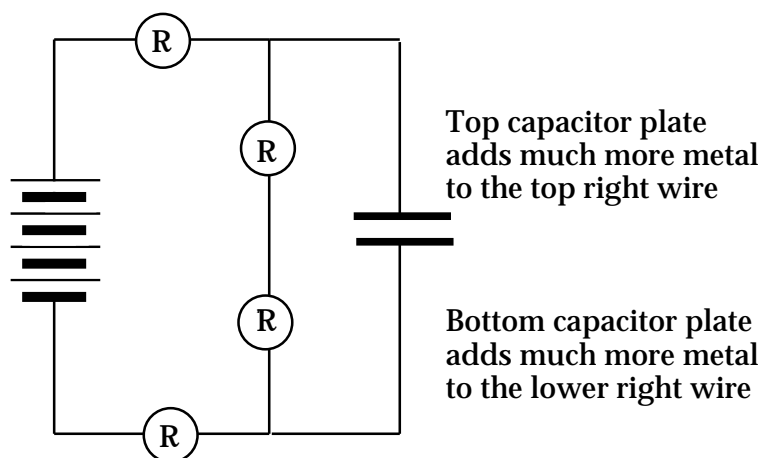
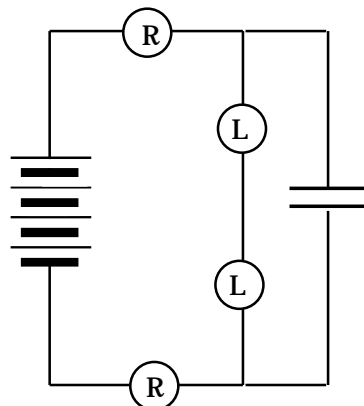

Figure 5.2
Figure 5.7
We will slow the process down by adding a lot more metal to the top right and bottom right wires – using capacitor plates, as in Figure 5.2. A lot more charge will have to be compressed and depleted in these plates, in order to cause higher and lower pressure in the top right and bottom right wires. That will require a lot more time.
1. Set up the circuit in Figure 5.2 using a blue capacitor. Make the last connection at one of the battery terminals. Describe what you observe.
2. Draw starbursts on the bulbs in Figure 5.2 that show the brightness of each bulb at the instant of connection. Draw arrowtails that show the directions and rates of flow that are causing the observed brightness. Color code the wires to provide a picture of the pressure differences that cause these flows.
Draw arrowtails on Figure 5.2 to illustrate your answers. Explain your reasoning.
Keep the circuit of Figure 5.2 in front of you, with all of its bulbs glowing in the final steady state.
Set up the circuit in Figure 5.7 using a blue capacitor. Make the last connection at one of the battery terminals. Notice the difference between this circuit and Figure 5.2.
2. Draw starbursts on the bulbs in Figure 5.7 that show the brightness of each bulb at the instant of connection.